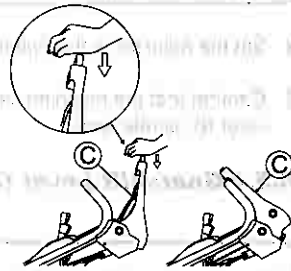

Fig. 17.
3 Push Blade lever (C) forward while pressing its yellow button. (See Fig. 17.) Then, the blade starts rotating.